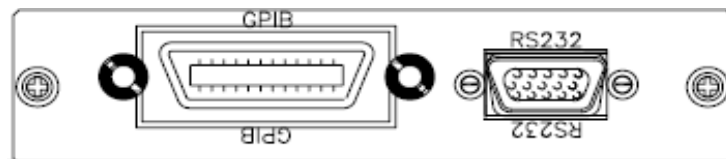

Fig 2-2 36000A Series GPIB & RS232 Connection
- 2.10.4. Fig 2-2 shows the RS232 connector (Female) on the rear panel Connects 36000A Series Mainframe to RS232 port of computer in one By one Configuration .The RS232 BAUD-RATE can be set in the front Panel, it Will be lit the GPIB Address when press the "SYSTEM" button. Press it again, it will be lit the BAUD-RATE.